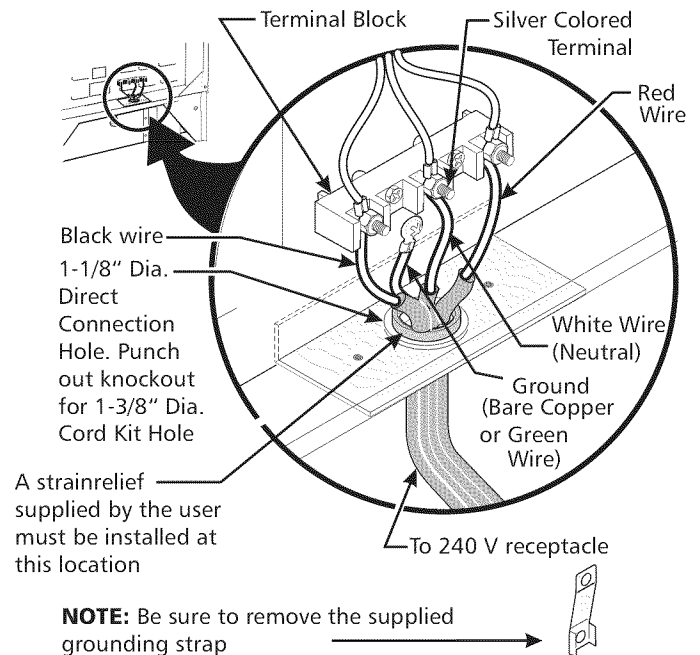

Figure 4
NOTE: Electric Slide-in Range is shipped from factory with 1 1/8" (2.9 cm) dia. hole as shown on figure 4. If a larger hole is required, punch out the knockout.
Where local codes does NOT permit connection of the frame grounding conductor to the neutral wire of the copper power supply cord (see Fig. 4)
3. Using the nuts supplied in the literature package, connect the ground wire (green) of copper power supply cord to the frame of the appliance with the ground screw, using the hole in the frame where the ground strap was removed (see Fig. 4).
If the appliance is connected directly to the circuit breaker, fuse box or junction box, use flexible, armored or nonmetallic sheathed copper cable (with grounding wire). Supply a U.L. listed strain-relief at each end of the cable. At the appliance end, the cable goes through the Direct Connection Hole (see Figure 4) on the Cord Mounting Plate. Wire sizes (**copper wire only**) and connections must conform to the rating of the appliance.